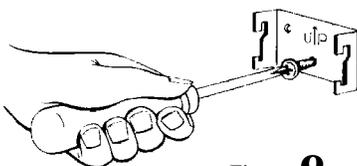

Figure 8
8. **Install Residential Mounting Bracket** (Fig. 7) or **Clip Mounting Bracket** (Fig. 8). Position Mounting Bracket on the inside wall of the sink cabinet. Use the Self-Tapping Screws to securely install the Bracket. Make sure the Bracket location permits access to the cold water valve location and easy access for Cartridge changes.